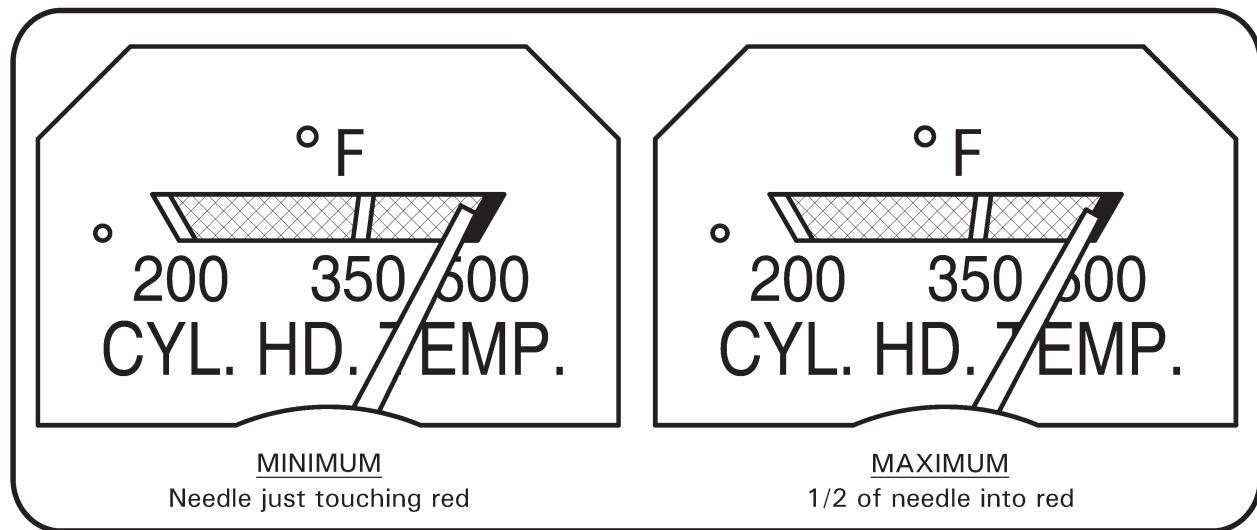

FIGURE 33-3 CYLINDER HEAT TEMPERATURE GAGE CALIBRATION
6. Refer to Figure 33-3. Push in GAGES 2-amp circuit breaker. Turn battery switch on and observe CHT gage. Adjust potentiometer screw on C691-1 circuit board assembly until gage indicates within limits shown with console in closed position (CHT probe resistance is 32 ± 0.4 ohms at 500° F).